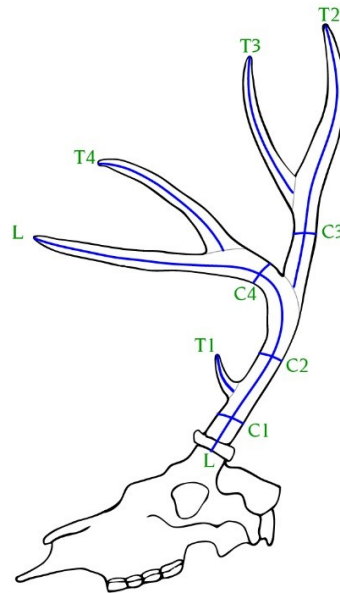

Figure 2
2. Main beam. A cable is the preferred tool for measuring the main beam. Measure the main beam antler on the center of the outside curve from the lowest edge of the burr to the tip. (Figure 2) The main beam antler is that part of the antler that curves forward, is closest to the skull, and in many cases curves inward toward the tip. Before starting, mark the center points along the beam to the tip with a pencil. The cable
5. Circumference. Do not use a cable; use a tape with a ring. Measure the smallest circumference between the burr and T1, the brow tine. (Figure 2, C1). For the C2 circumference, measure the smallest place after the brow tine but before T4 branches off. Next measure the smallest circumference on the T4 between the main beam and where the T3 branches off. Finally, C4 is measured at the smallest place along the main beam between the T2 and T4. All circumferences must be taken between typical tines and not between NT